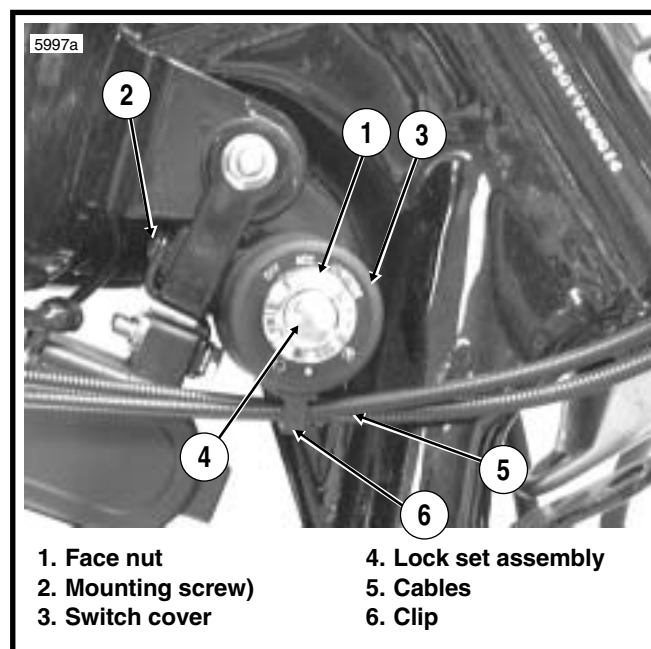

Figure 2. Ignition Switch
3. See Figure 2. Remove ignition switch face nut (1).